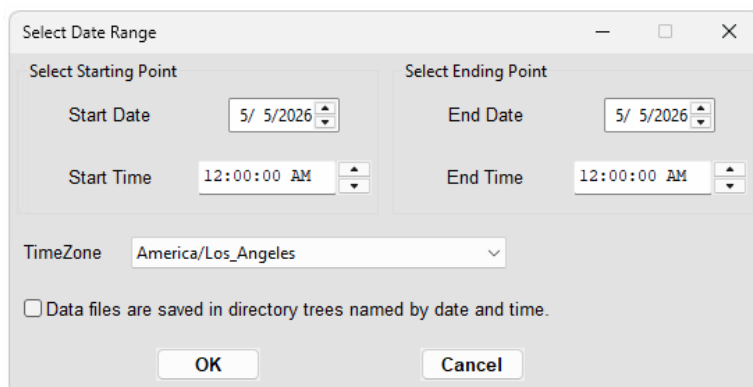

Figure 63 - Define Date Range Dialog
**Select File > Concatenate H5 Files**, then click **Define Date Range** to specify the desired date range as shown in Figure 63 - Define Date Range Dialog.
Picarro software saves data in a directory tree that is named by the creation year, month, and day as shown in Figure 63 - Define Date Range Dialog. Select this option if the target folder has this file structure. This way, Data File Viewer will only search folders within the desired date range, which can substantially reduce processing time.